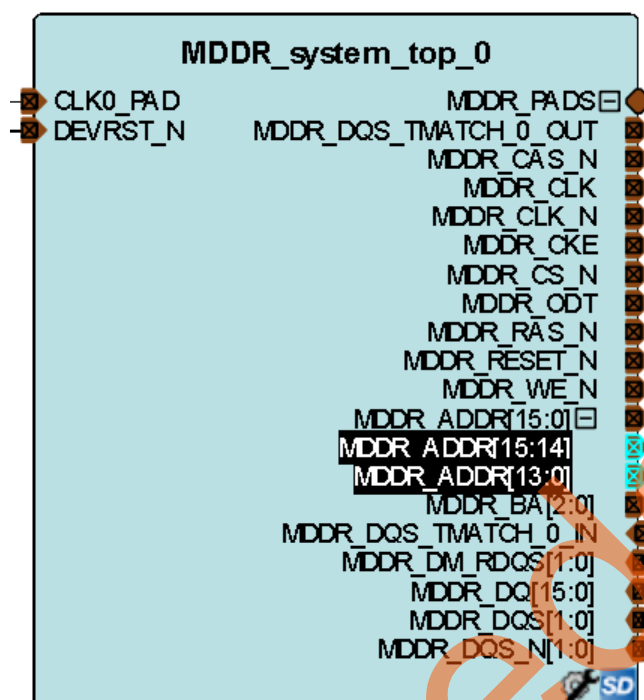

Figure 28. MDDR_ADDR Created Slices
- Click **OK**. This creates two slices of the MDDR_ADDR bus, as shown in Figure 28.